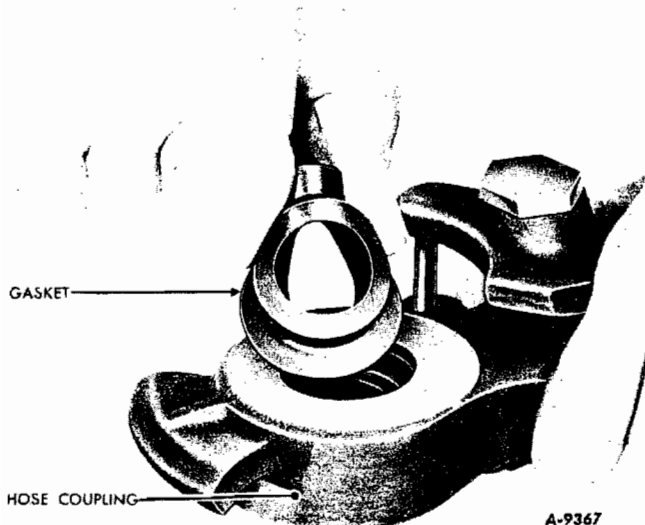

Fig. 23
4. To install a new gasket, partially collapse it with the fingers (Fig. 23), and enter one side of the gasket flange in the groove in the coupling.